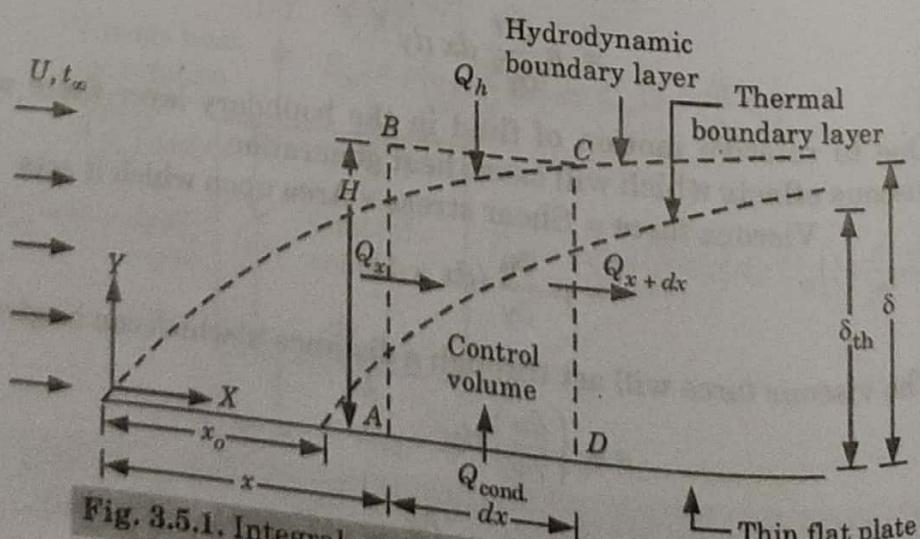

Fig. 3.5.1. Integral energy equation – control volume.
1. Consider a control volume as shown in Fig. 3.5.1.